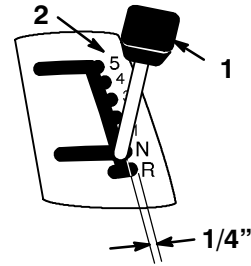

Figure 5
Cable adjustment is required if the ground speed selector lever does not move firmly toward the numbers on the shift plate when released or it is difficult to shift between gears on-the-go (Fig. 5).
3. Move gear select lever and note gap between lever and edge of gate. There should be about 1/4" of free play before cable is taught (Fig. 5).